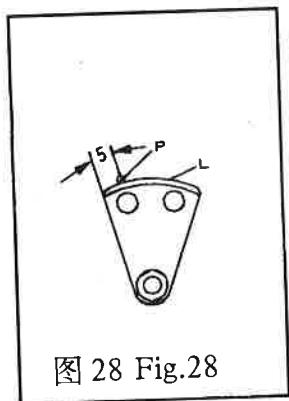

图 28 Fig.28
(2)前后位置 抬料轮的前后位置以第一针为准，当机针“P”针尖与抬料轮中心相交时，抬料轮“L”的后侧面到机针中心之间的距离为5毫米（图28），如果上述位置不正确，必须进行调整。
调整方法：转动手轮使机针“P”的针尖与抬料轮“L”中心相交（图28）。然后旋松曲柄锁紧螺钉“G”（图27），转动抬料轴“H”（图27、29），使抬料轮后侧面离机针中心5毫米（图28）时将曲柄锁紧螺钉“G”旋紧。最后检查一下抬料轴“H”应无轴向窜动，摆动应灵活。
Take the first stitch as a frame of reference to the positoning of ridge froming disc. When needle point “p” intersects the centre of ridge forming disc, the back side of ridge forming disc “L” is in 5mm distance from the centre of needle(Fig.28). If incorrect location is positioned, adjustment shall be made.
Turn handwheel until the needle point “P” intersects the centre of ridge forming disc “L”(Fig.28). Loosen crank lock screw “G”(Fig.27),turn the ridge forming disc shaft (Fig.27,29) “H”until the back side of ridge forming disc is in 5mm distance from the centre of the needle(Fig.28), tighten crank lock screw “G”. Be sure to keep the ridge forming disc from having an axis play and make it swing nimbly.